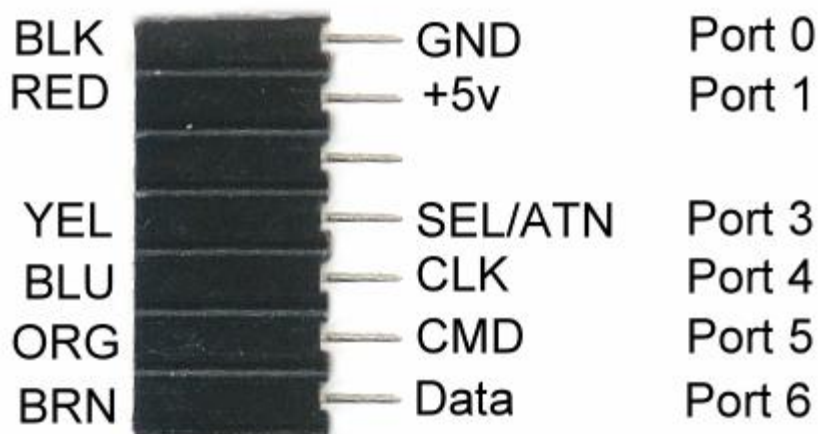

Figure 43
- Using Figure 43 connect the various wires to the header. Slip a 1" piece of 1/6" heat shrink over each wire before you solder it in place. Once a wire is soldered, pull the heat shrink over the connection and heat.